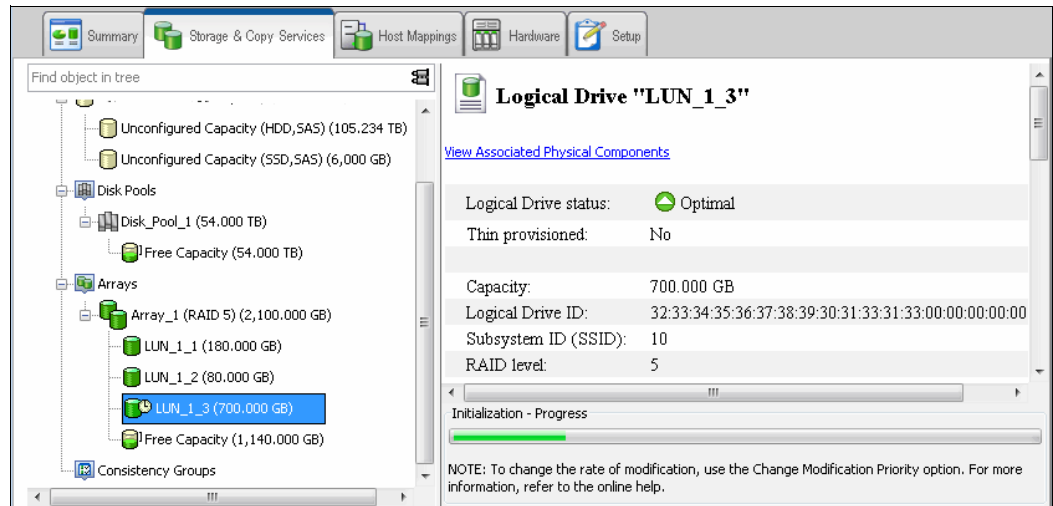

Figure 8-27 Logical drive that is formatted
- The new logical drive is formatted. You can check the progress of this operation in the Properties pane of Storage Manager (Figure 8-27). The Logical Drive icon in the Logical pane is marked with a clock symbol during this process.